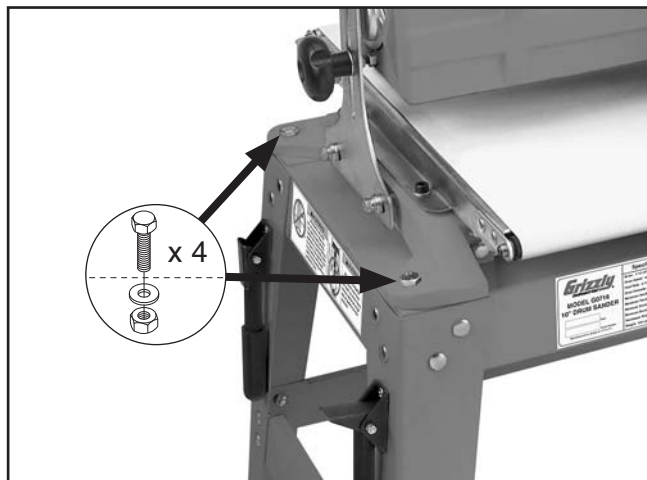

Figure 11. Sander assembly secured to the stand.
8. With the help of another person for lifting, place the sander assembly on the stand, align the mounting holes, then secure it in place with (4) M10-1.5 x 30 hex bolts, 10mm flat washers, and M10-1.5 hex nuts (see **Figure 11**).